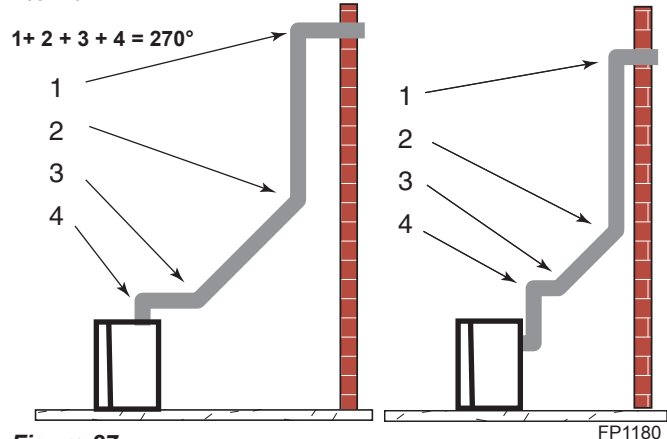

Figure 27 -
- The maximum number of 45° elbows permitted per installation is six (6). These elbows can be installed in either the vertical or horizontal run.
- The maximum number of elbow degrees in a system is 270°. *Figure 27*